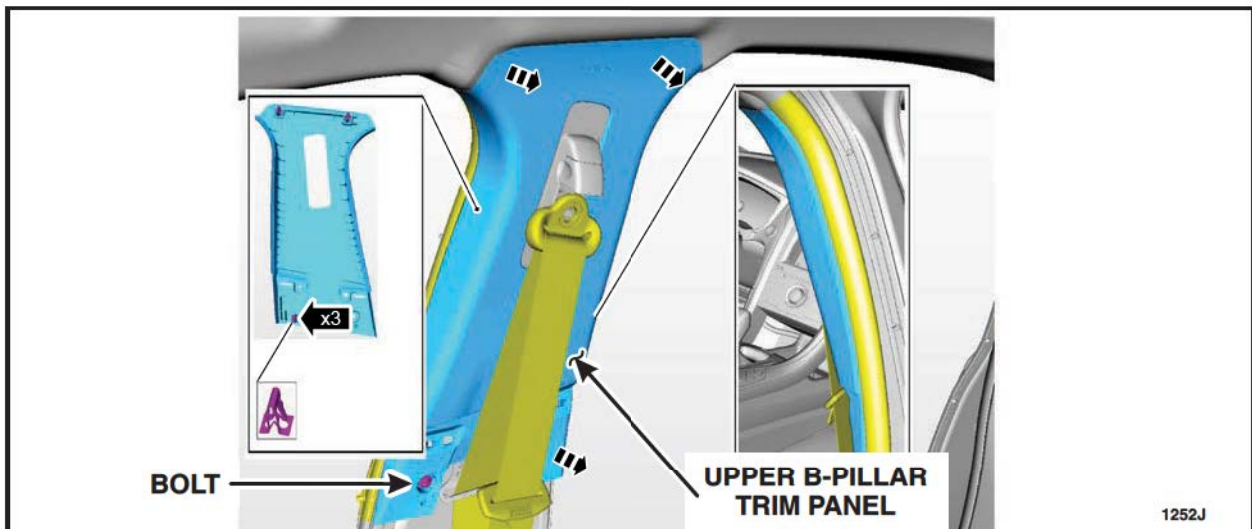

FIGURE 8
11. Remove the bolts and the RH and LH upper B-pillar trim panels. See Figure 8.